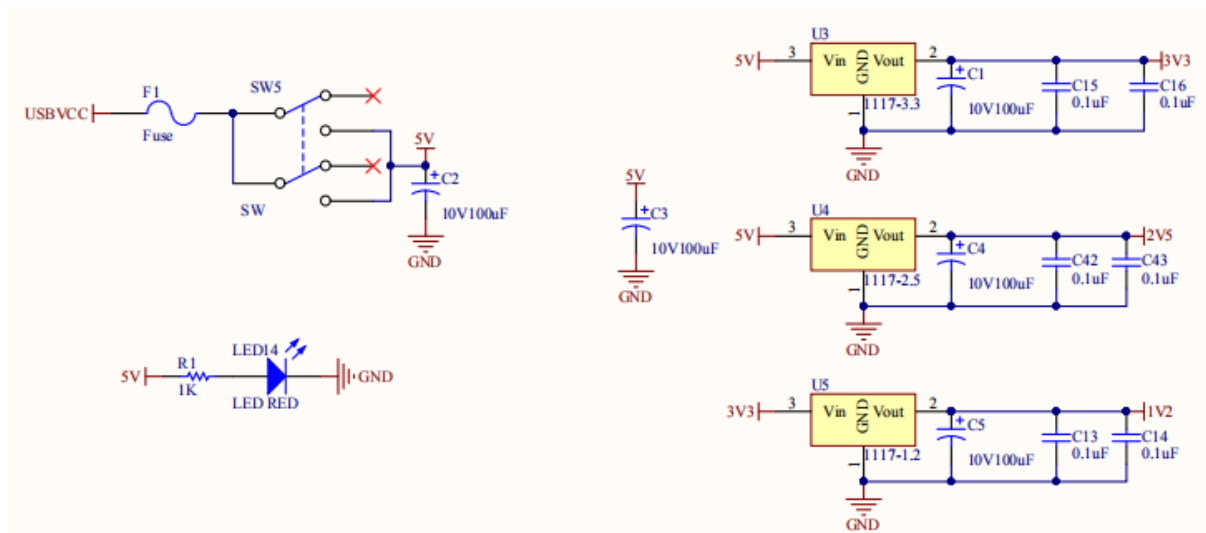

Figure 1-1 Three power lines on the development board
**The following hardware is provided on the HX1006 board. We can learn what can be done with the development platform from figure 1.1.**
Schematic diagram of power supply design is shown in figure 1-1.